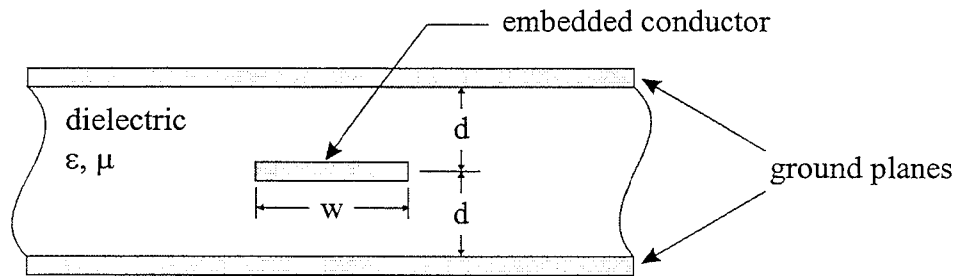

Figure 5
- (b) The figure 5 shows a cross-section through a so-called 'stripline' - a transmission line comprising a conducting strip embedded in a dielectric, with upper and lower ground planes.